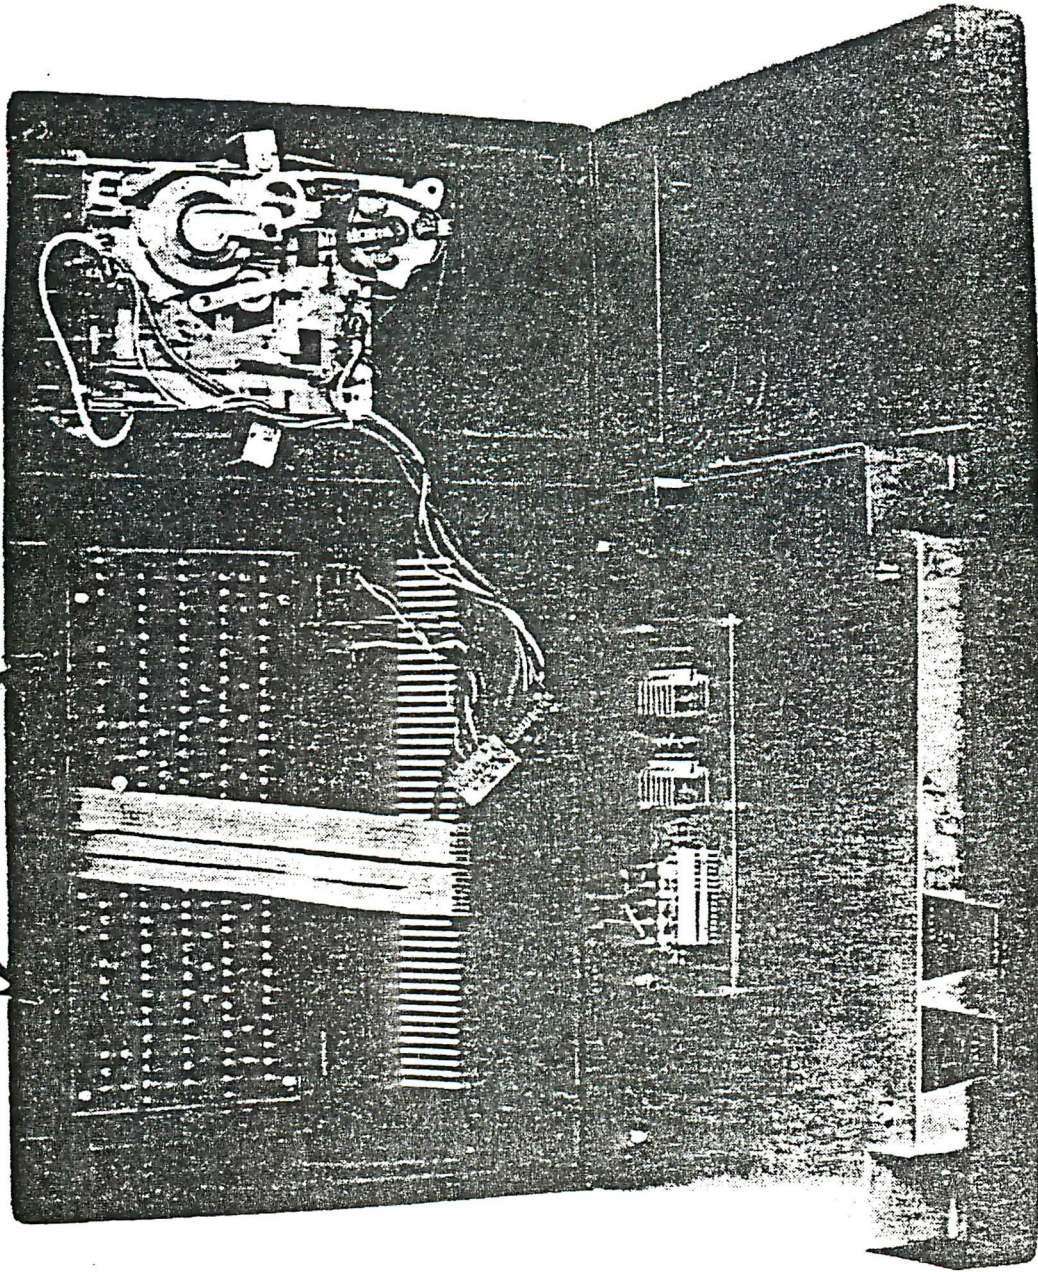
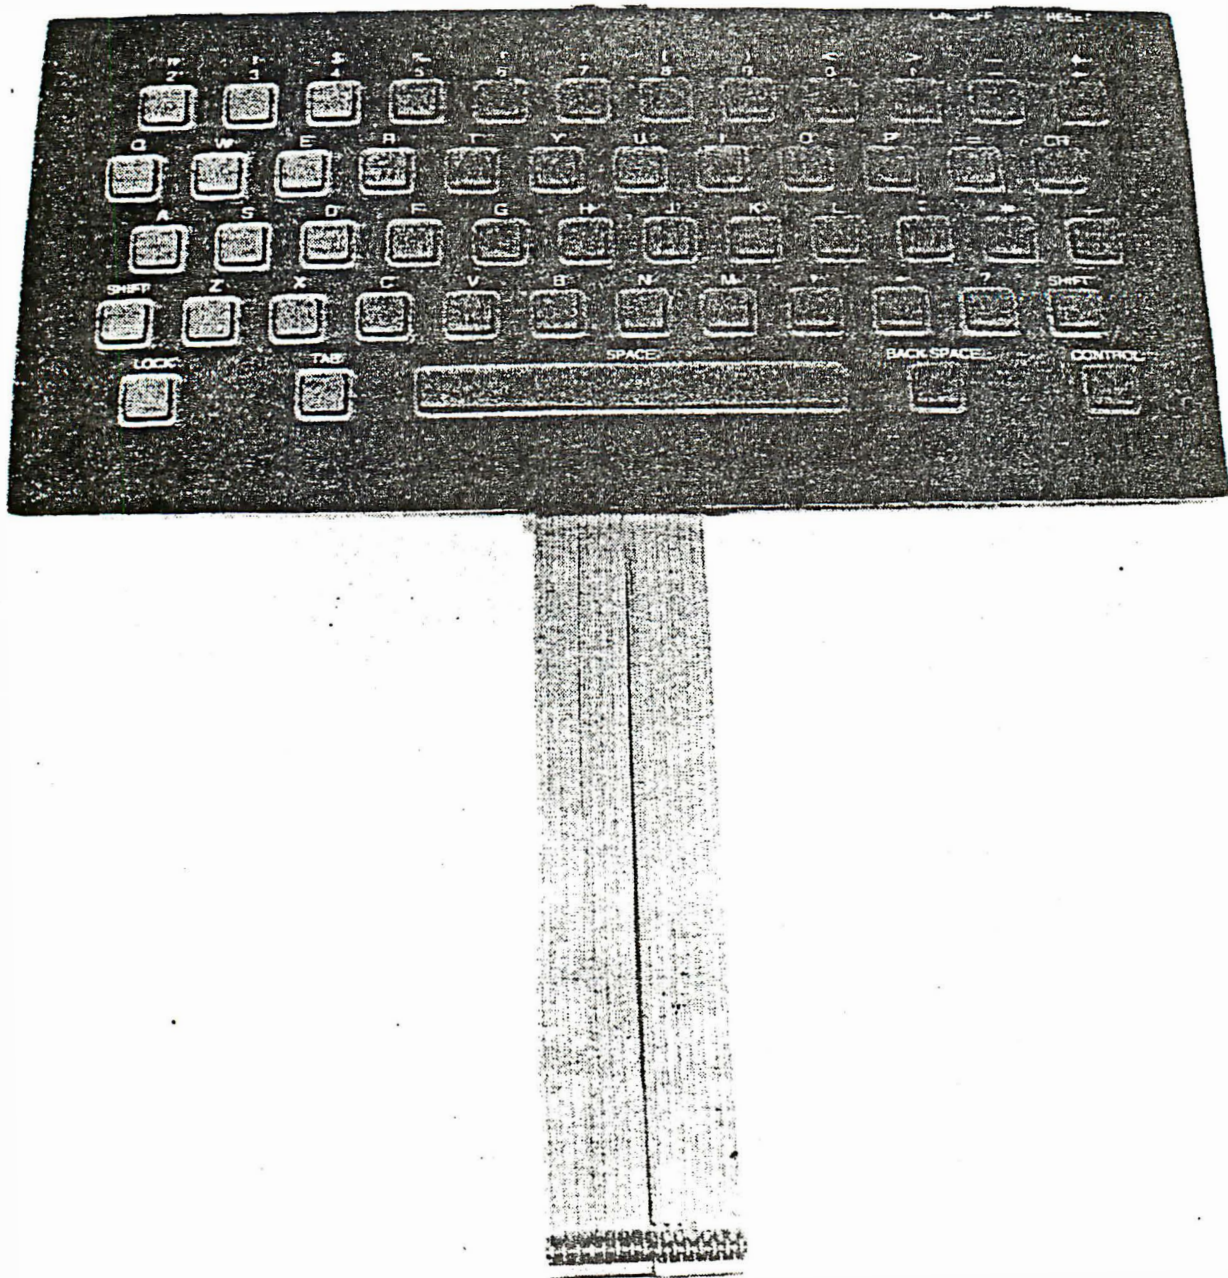

FIGURE 5--Upper Assembly - Fully Open
FIGURE 6--Control Panel Sub-assembly
6. Control panel sub-assembly (Figure 6)
5. Remove all connections and free the upper assembly as in Figure 5.
2. Remove the two (2) tinnerman nuts shown in Figure 5. Lift the Control Panel Sub-assembly (see Figure 6). Care must be taken in removing the nuts because too much stress will cause the locating plastic pins to break. The nuts can be removed quite easily by using long nose pliers and pinching the ends toward the pin.